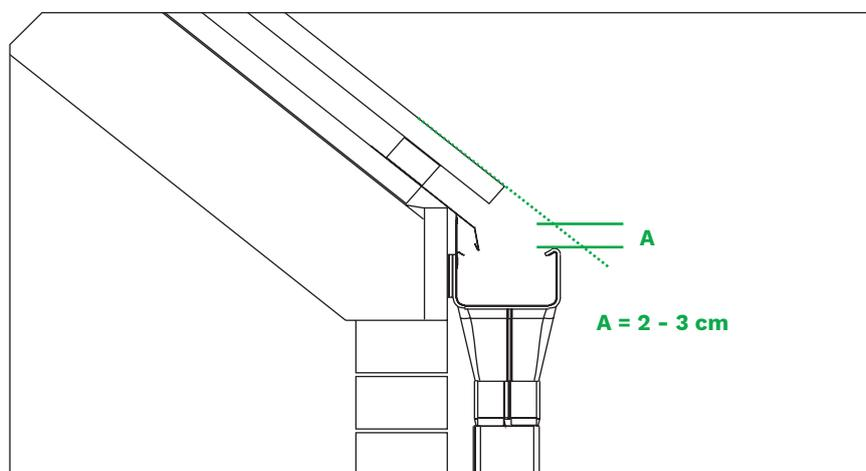

Figure 1
- 1.10. Setting the gutters in line with the roof plane - the roof extension should be **2-3 cm** above the front gutter drip. (**Figure 1**)